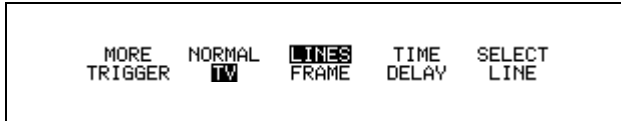
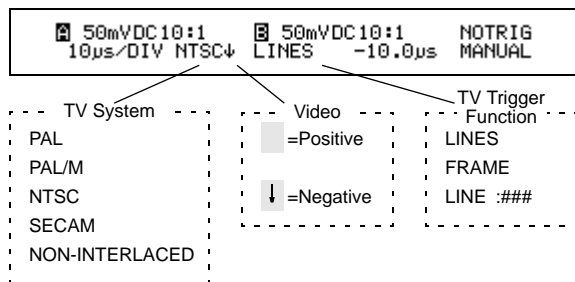

Figure 5-12. TV Trigger Menu
Figure 5-13. TV system and trigger function indicator
To use the TV trigger function, press **TRIGGER**; then press **F2** to open the TV trigger menu shown in Figure 5-12. You can select one of the following three TV trigger functions:
The TV system setting is shown at the top of the display, as shown in Figure 5-13.
1. From the TV Trigger Menu (see Figure 5-12):
To activate the LINES trigger function, open the TV trigger menu (see Figure 5-12); then press to highlight LINES. The top of the display now indicates the Lines function (see Figure 5-13).
To activate the FRAME trigger function, open the TV trigger menu (see Figure 5-12); then press to highlight FRAME. The top of the display now indicates the Frame function (see Figure 5-13)
To select a line, refer to Figure 5-12 and do the following: